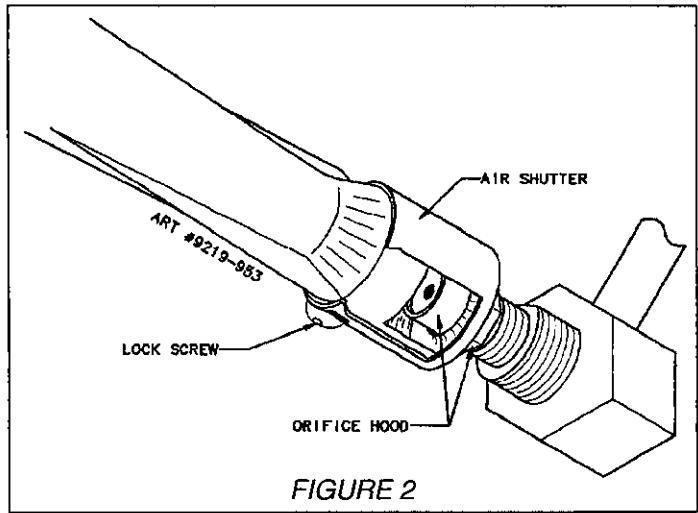

FIGURE 2
1. Yellow flame on burner - open burner air shutter to the widest opening that will not cause the flame to lift or blow off the burner when cold. (See figure 2.)
2. Distinct blue flame but lifting - close burner air shutter to the point where it will not cause the flame to lift or blow off the burner when cold. (See figure 2.)